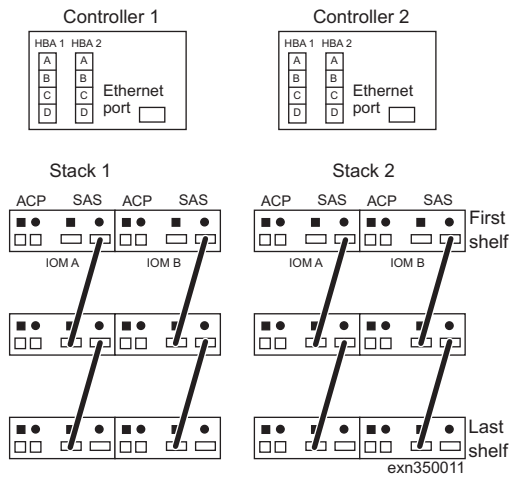

Figure 12. Daisy-chain the SAS ports
1. Daisy-chain the SAS ports, as shown in Figure 12 on page 9.